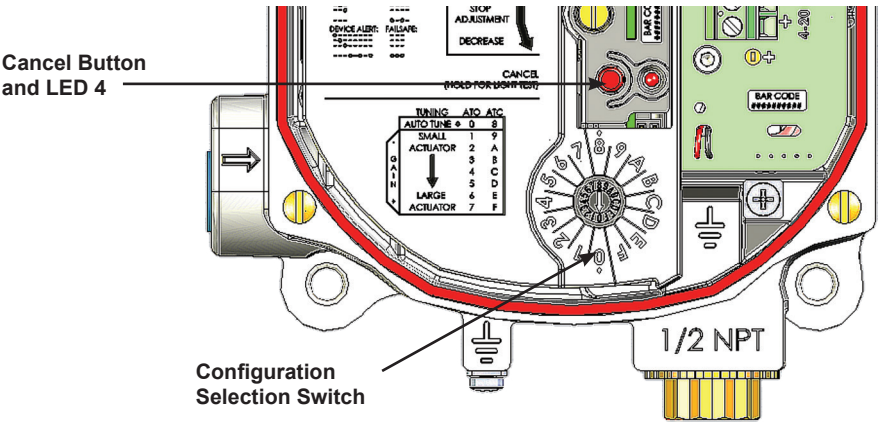

Figure 23 - Configuration Selection Switch
- Use the Configuration Selection Switch to select a preset tuning value (Figure 23).